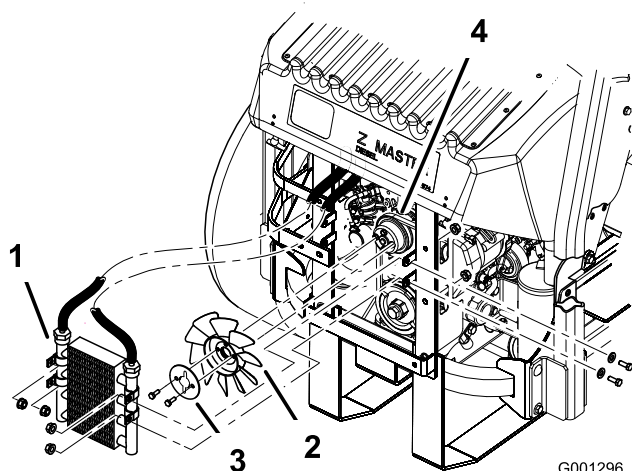

Figure 75
5. Remove the 4 bolts holding the oil cooler and position the oil cooler to the side (Figure 75).
6. Remove the 2 bolts holding the fan and fan plate to the machine (Figure 75).
10. Install the fan and fan plate to the machine with the 2 bolts previously removed (Figure 75).
11. Install the oil cooler with the 4 bolts previously removed (Figure 75).